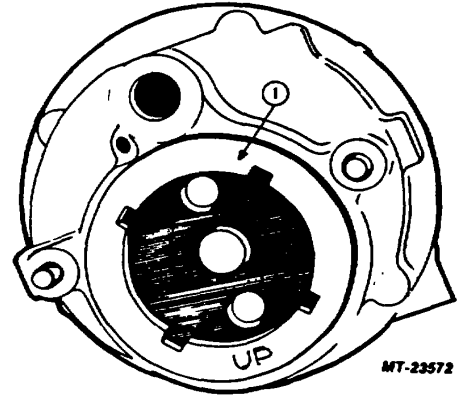

Fig. 15 Ring Location
7. Loosen but do not remove the large threaded retaining ring in the center of the pump body Figure 15.